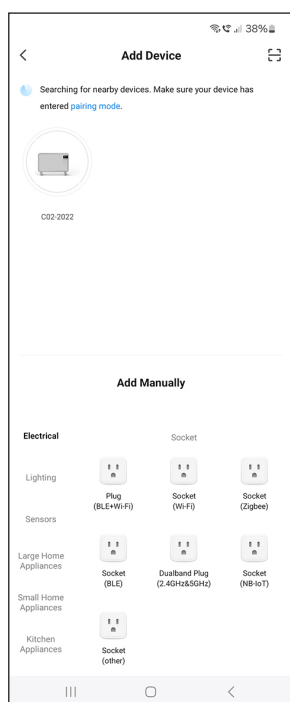

fig. 7
- The app will now find the heater, click the icon to add (see fig. 7)